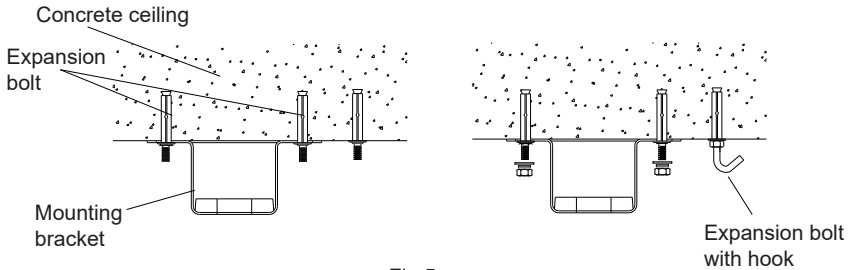

Fig.5
- Secure the mounting bracket to the concrete ceiling or structure that is capable of carrying a load of at least 40kg, with expansion bolt provided.(Fig.5)